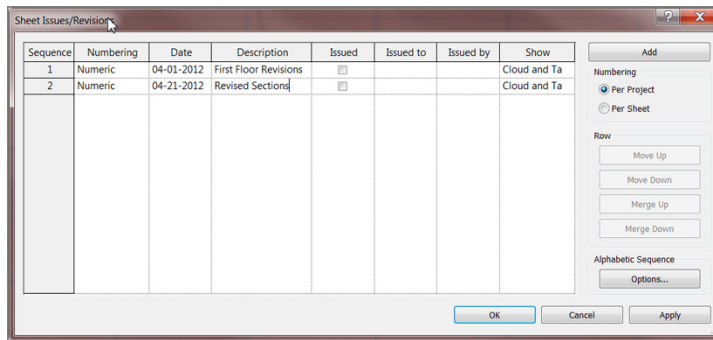

FIGURE 14.20: The Sheet Issues/Revisions dialog
1. On the View tab, click the Sheet Issues/Revisions button on the Sheet Composition panel. The dialog shown in Figure 14.20 opens.
4. Click the Add button (see Figure 14.20).
6. For the description, enter **Revised Sections** (again, see Figure 14.20).